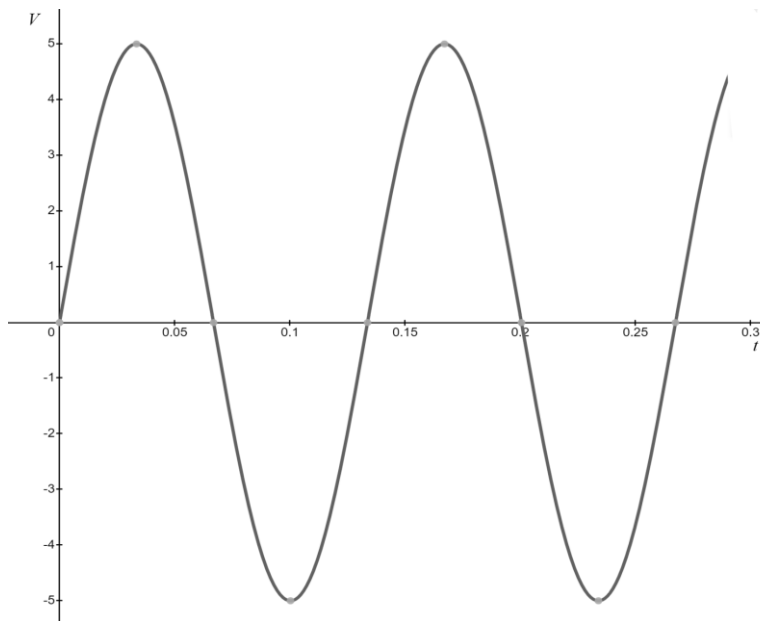

Figure 13: Input voltage for a half wave rectifier circuit.
- a) Complete the graph (Figure 13) showing the output voltage for the input voltage given.